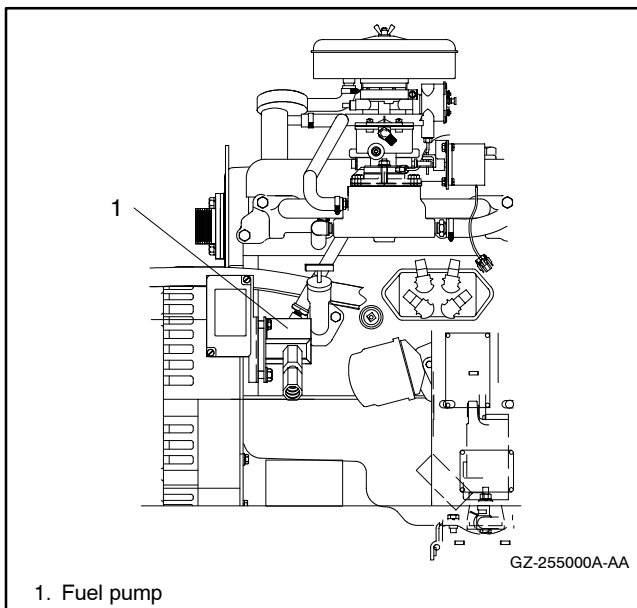

Figure 6-20 Fuel Pump
18. Remove two bolts and lock washers securing fuel pump to adapter. See Figure 6-20. Move fuel pump away from adapter. Do not disconnect fuel line.